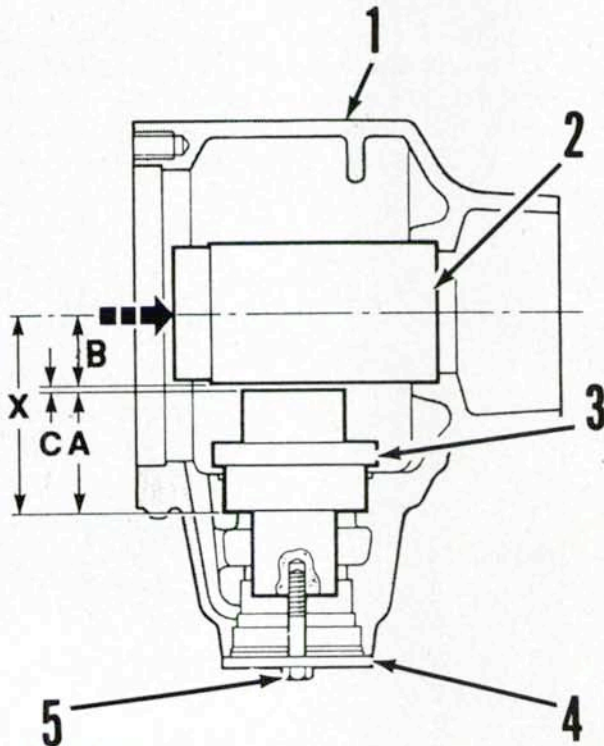

Fig. 18—On APL-355 axle, a special tool (No. 12237) is used during adjustment of pinion engagement setting. Refer to text.
If pinion is being installed in a new axle housing on models with APL-355 axle, adjust pinion engagement as follows: Special adjustment tool set (Nuday tool No. 12237) is needed to perform this adjustment. Insert dummy pinion (part of special tool set) into axle housing and secure in place with washer and cap screw as shown in Fig. 18. Insert the mandrel (2) into differential bearing cup counterbore in axle housing. Use a feeler gage to measure clearance (C) between the mandrel and dummy pinion. Make the following calculations: Add the height of dummy pinion (dimension "A") which is etched on side of dummy pinion, plus dimension "B" which is 45 mm, plus clearance "C" measured with feeler gage. The result will be dimension "X."